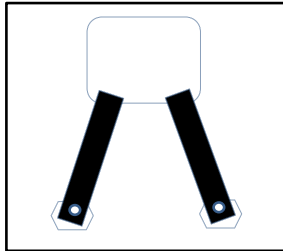

Figure 1: RAM 1500*
Step 6: Using the 3/8" threaded clips, slide two clips in the upper rectangular hole, and align one clip in each hex hole so the clip threads are visible. **Figure 1**